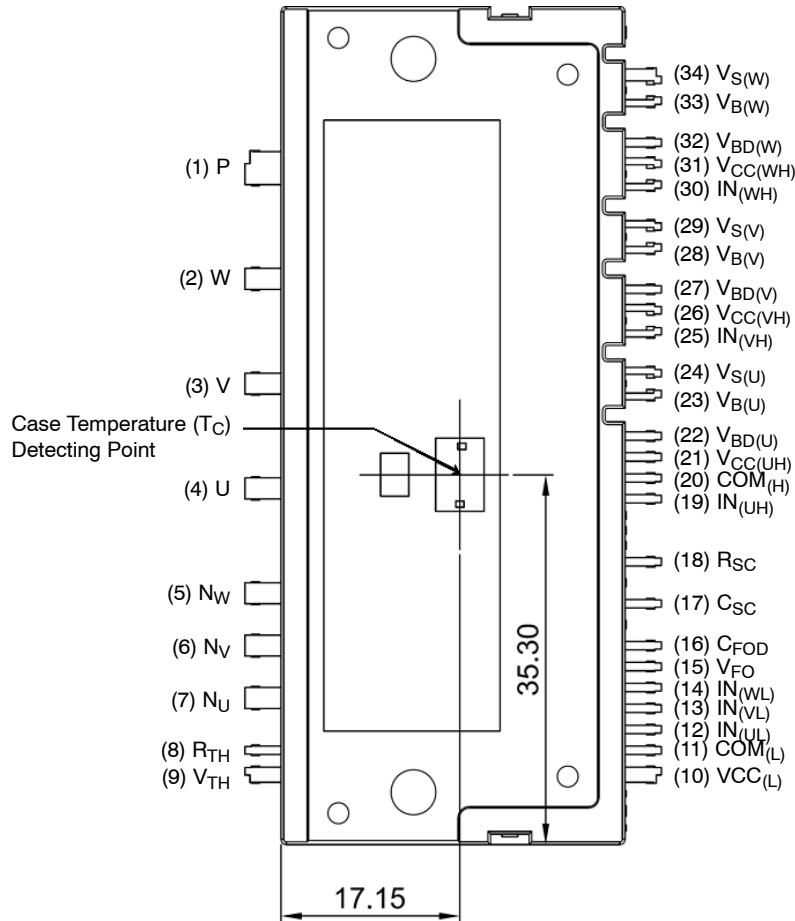

Figure 2. Top View
| T C        | Module Case Operation Temperature  | See Figure 2   | -40~125 | °C               |
5. For the measurement point of case temperature (TC), please refer to Figure 2.